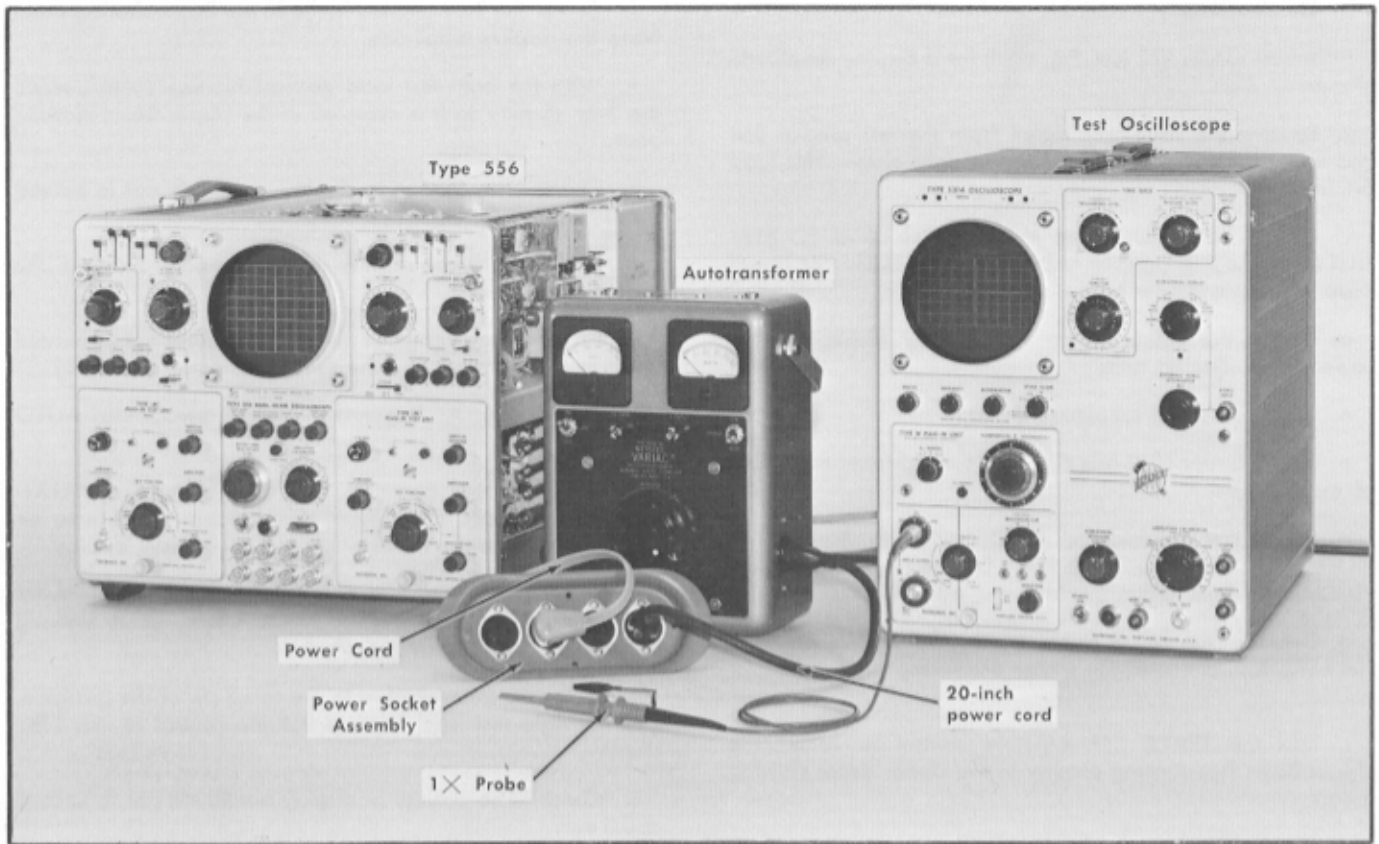

Fig. 6-23. Initial test setup for checking trace drift with line voltage change.
- a. The test setup is shown in Fig. 6-23.
c. Connect the 20-inch power cord between the autotransformer and the power socket assembly, and connect the Type 556 power cord to the power socket assembly, as shown in Fig. 6-23.